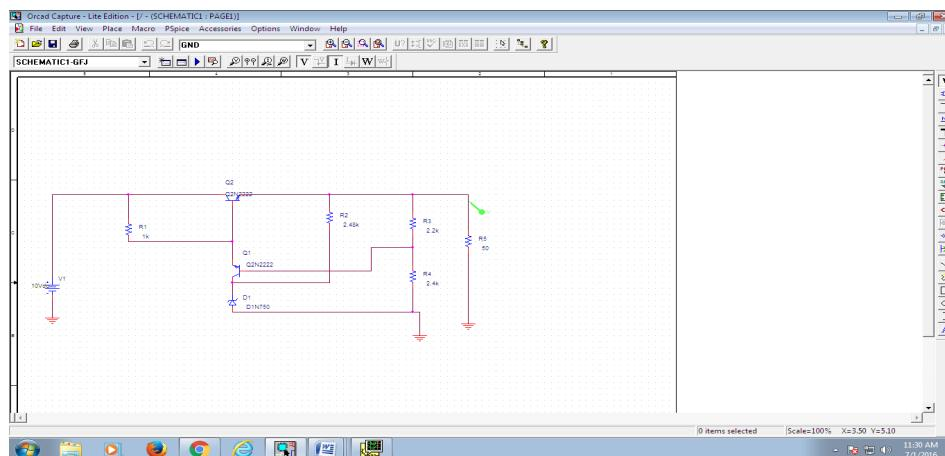

Fig 7.4 PSPICE Simulation of Series Voltage Regulator
- With reference to the above circuit (fig 7.4), What will be the output voltage if reference voltage was short circuited?